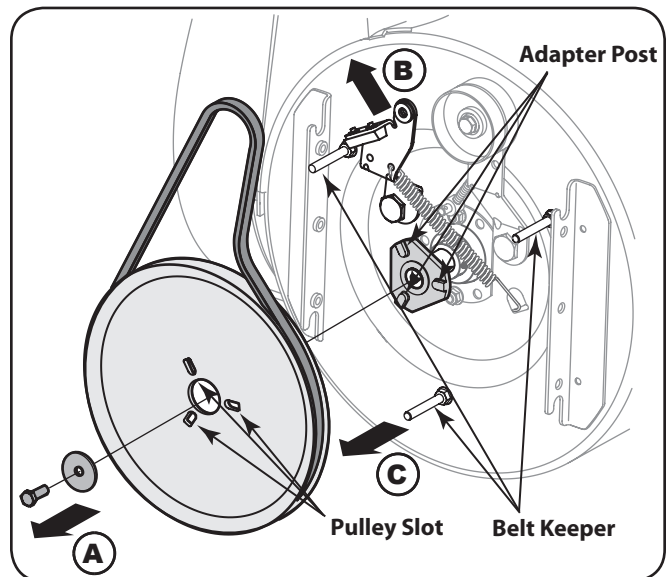

Figure 7-7
- Block the impeller with a piece of wood to prevent from spinning and use a 1/2" wrench to remove the hex screw and flat washer from the center of the auger input shaft and auger pulley adapter. Refer to Figure 7-7.
- Lift the brake bracket assembly out of the pulley groove and slide the pulley assembly off the posts of the auger pulley adapter to remove the old belt. Refer to Figure 7-7. **NOTE:** The pulley adapter may slide off the auger input shaft when removing the pulley. Use extra caution to ensure the adapter does not fall and get damaged when removing the pulley.
- Turn the pulley as necessary to align its three slots approximately with the posts of the pulley adapter, then move the brake bracket assembly away from the input shaft. While aligning the pulley slots and adapter posts, push the auger pulley fully onto the adapter. Refer to Figure 7-7. **NOTE:** If the pulley adapter was removed with the pulley, align the splines of the pulley adapter and auger input shaft, and push the pulley and adapter onto the input shaft. Refer to Figure 7-7.